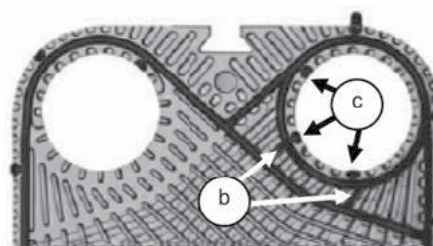

Fig.9
- On the other half, use shears to remove all the Plug-In® tabs and, if present, all the connecting bridges between the diagonal and the sealing ring (Fig.9 b). So, following the procedure described in point 5.7.3, attach the gasket, excluding the sealing rings.
(for multi-pass heat exchangers only) and end plate 1. Models equipped with Plug-In® tabs inside the sealing rings: using shears, cut the Plug-In® tabs inside the sealing rings (Fig. 9 c) corresponding to the closed holes only. Then, following the procedure described in point 5.7.3, attach only the connecting bridges between the diagonal and the ring.